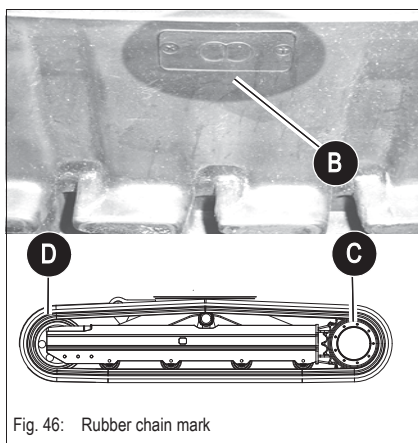

Fig. 46: Rubber chain mark
- The rubber chain has a mark **B** as shown in Fig. 46